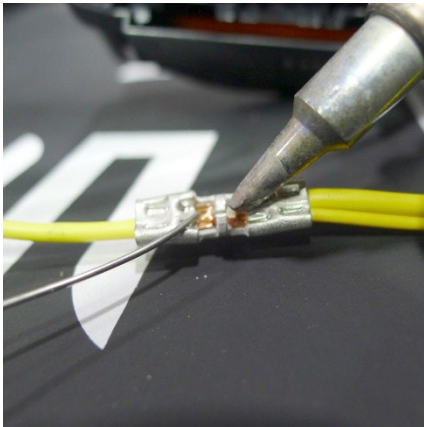

Figure 16 – Crimp wire and solder barrel crimp
17. Make a butt splice repair to attach the yellow power terminal wire to the barrel crimp of the jumper (Figures 16, 17, and 18).